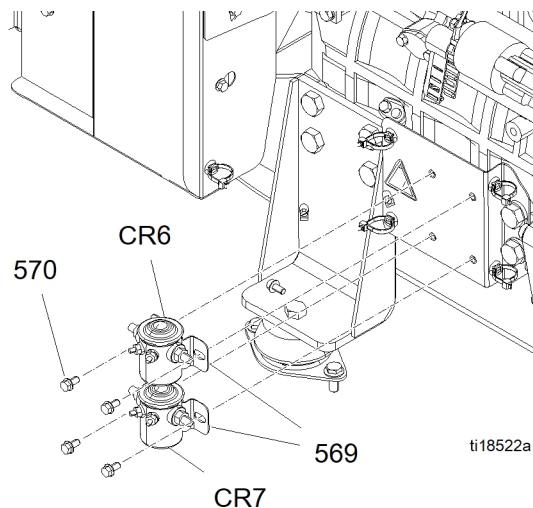

FIG. 18: Starter (top) and Glow Plug (bottom) Solenoid Relays
2. Remove the bad relay or fuse from the load center (242) and install a new relay or fuse. See FIG. 18, page 78.